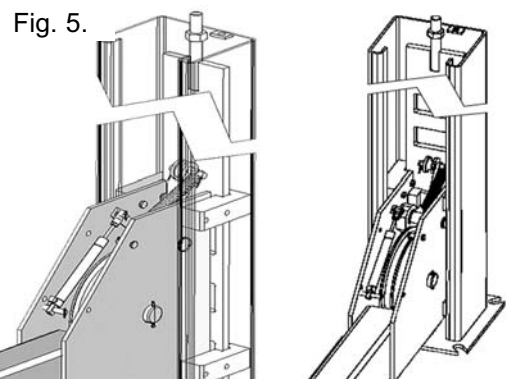

Fig. 5.
4. Position the POWERSIDE RUNWAY on top of the Cross Tubes with the UTILITY RAIL towards the center. The fitting holes located at the side of the Powerside Runway should be adjacent the POWER UNIT COLUMN. Align the holes in the runway with the holes on the Cross Tubes and bolt together (torque to 35-45 PSI) using four M18 x 2.5 hex bolts and washers. (See Fig. 5.)